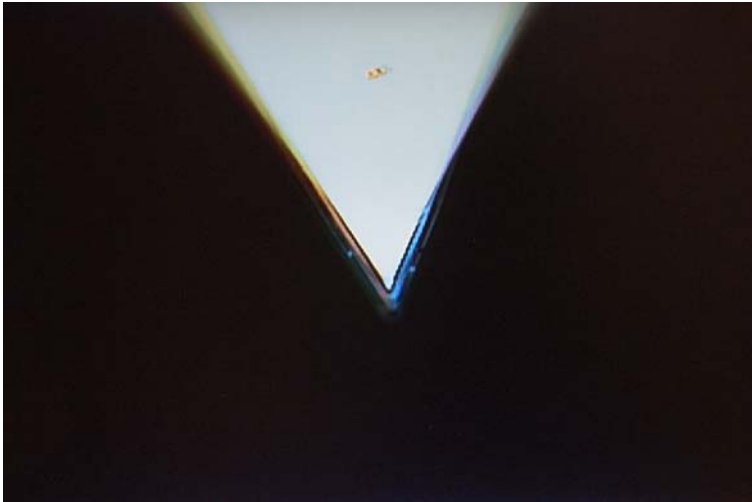

Fig. 10-32. Objective focused on the end of the cantilever
4. Focus the objective on the end of the cantilever by turning the screw 3 (see Fig. 10-32). Monitor the focus on the image of the optical viewing system.